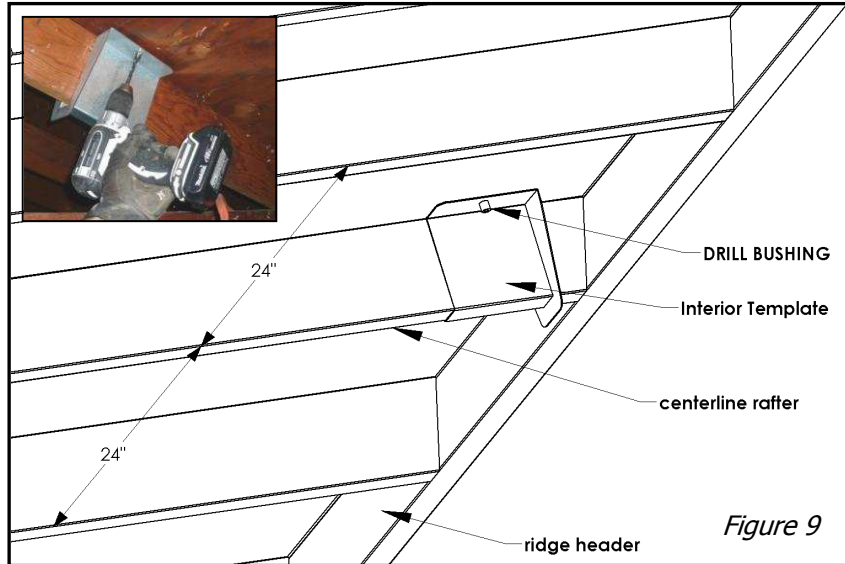

Figure 9
Step 3. From INSIDE the attic, place the Interior Template against your centerline rafter, as shown in Figure 9. Drill through the template using a 7/32" drill bit. THE TOP EDGE OF THE SUNCACHE UNIT WILL BE 5" UPHILL OF THE HOLE.